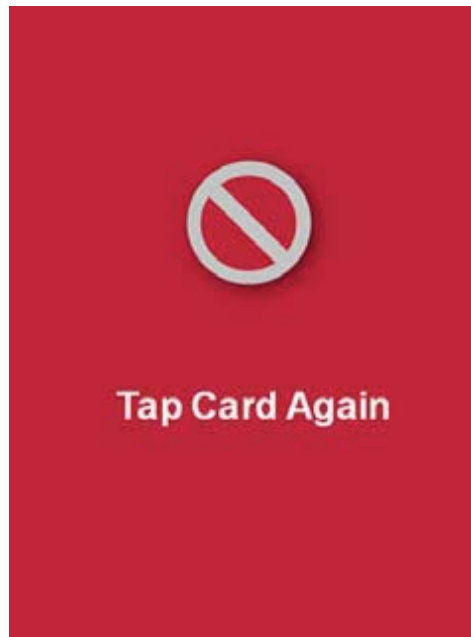

Figure 9-6 Farecard Read Error
9.4.4 Card Read Error A card read error will cause the screen shown in **Figure 9-6** to appear.